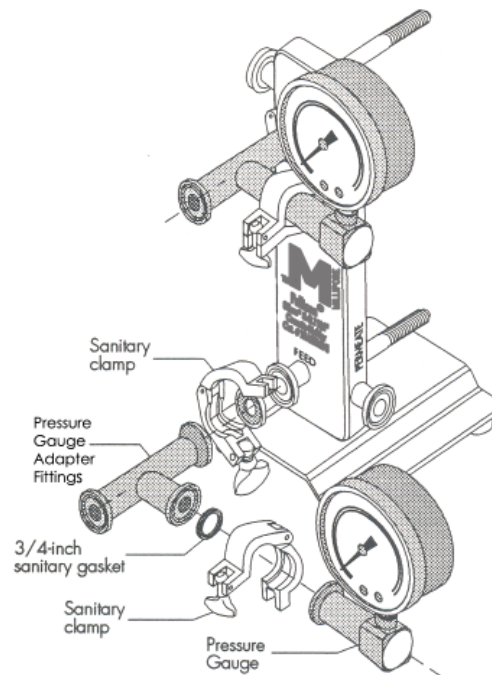

Figure 7: Attaching the Pressure Gauge to the Pressure Gauge Adapter Fittings
2. Hold the gasket in place and press the pressure gauge diaphragm against the 3/4-inch side branch of the pressure gauge adapter fittings, as shown in Figure 7.